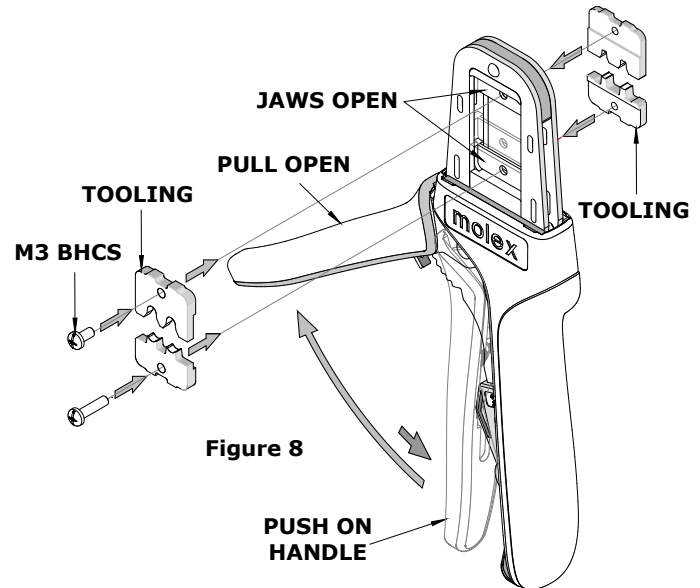

Figure 8
3. Flip the upper tooling to the opposite side and replace the M3 BHCS. Make sure the small markings on the front and back of the hand tool frame match up and are on the outside of the hand tool frame. See Figures 8 and 9.